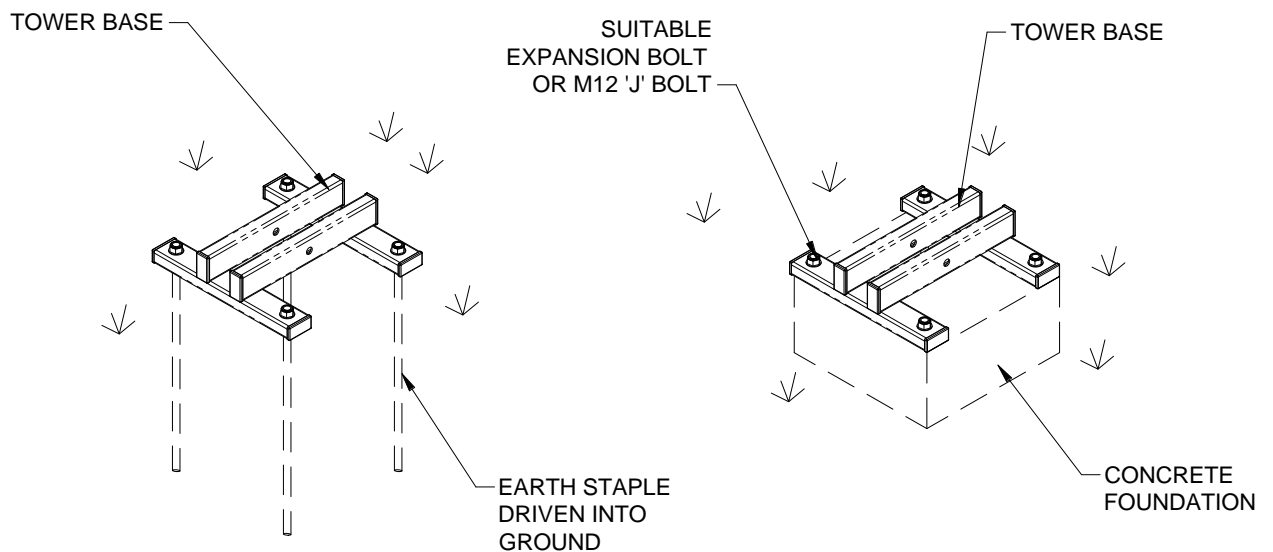

Fig 3: Tower Base Fixing
5. **Fix the tower base** - Once you have selected the appropriate type of ground anchor technique from the table above, begin by positioning and fixing the tower base - see fig 3. If a cast concrete raft (foundation) is required, dig and cast the raft according to the dimensions shown in the above table. The concrete raft should be made from 80 Newton concrete. Do not shutter or backfill.